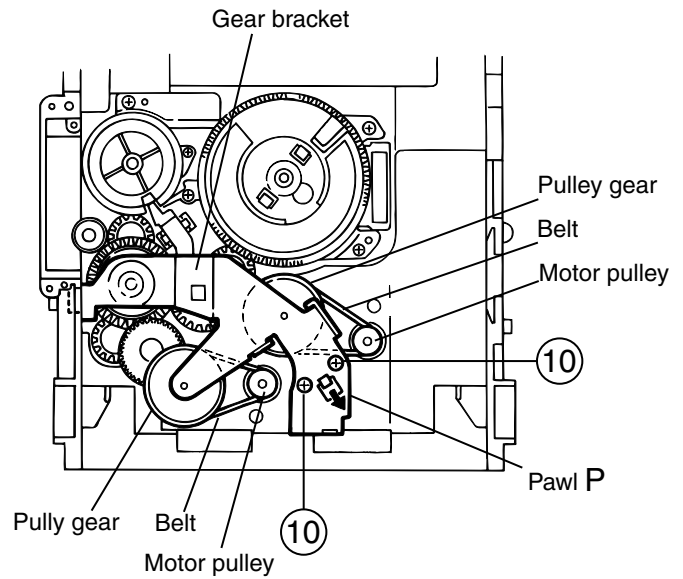

Fig.19
(See Fig.19~22)**
1. Remove the two screws 10 retaining the gear bracket (See Fig.19).
2. While pressing the pawl "P" fixing the gear bracket in the arrow direction, remove the gear bracket (See Fig.19).
4. Remove the belts respectively from the right and left actuator motor pulleys and pulley gears(See Fig. 19).